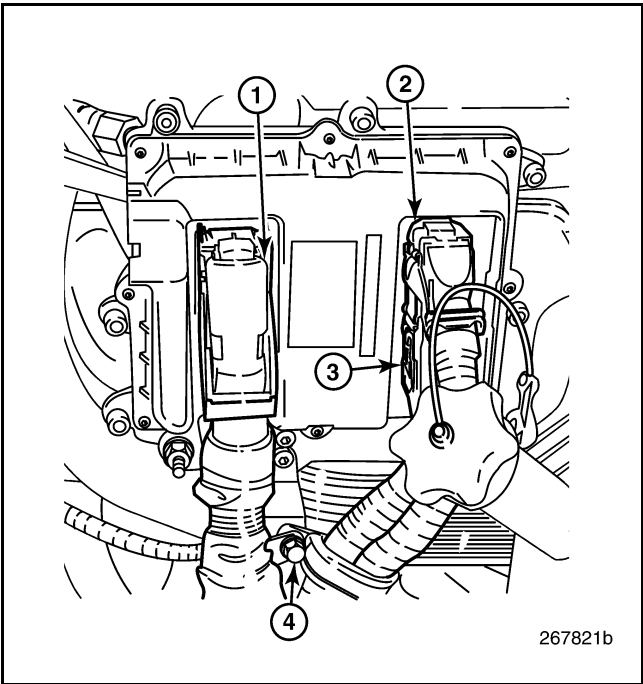

Figure 461 — EECU Connectors
3. Disconnect the wiring harness connectors from the EECU (Figure 461).
6. Reinstall the bolt securing the EECU wiring harness clamps to the EECU cooling plate bracket (Figure 461).
7. Connect the wiring harness to the EECU (Figure 461).